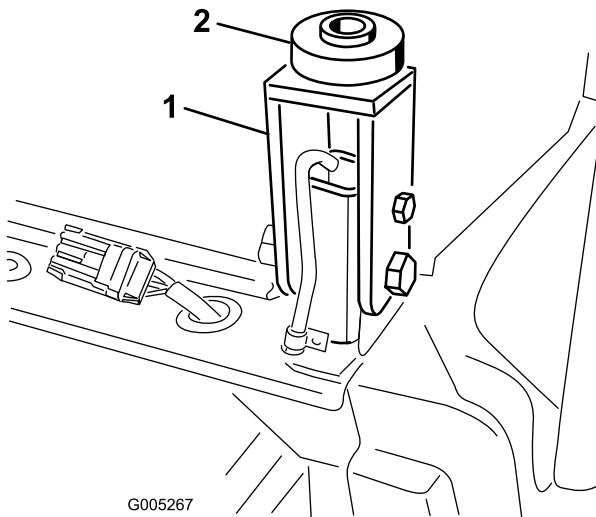

Figure 114
24. Insert a rubber mount onto each cab mount at the rear mounting locations (Figure 114).